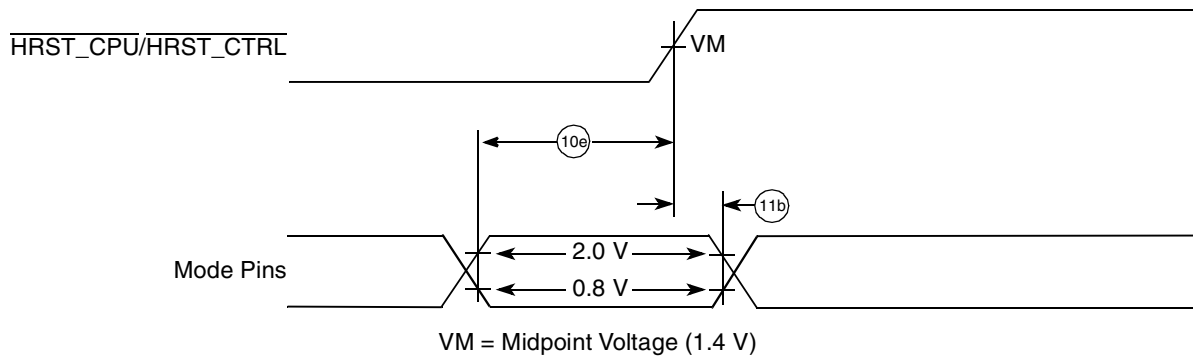

Figure 13. Input Timing Diagram for Mode Select Signals
- All mode select input signal specifications are measured from the TTL level (0.8 or 2.0 V) of the signal in question to the $\text{VM} = 1.4$ V of the rising edge of the $\overline{\text{HRST_CPU/HRST_CTRL}}$ signal. See Figure 13.
Figure 13 shows the input timing diagram for mode select signals.